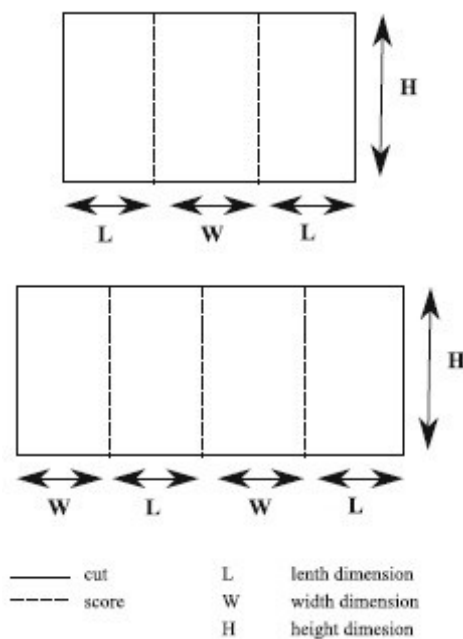

Fig. 7
- 5) For triangle blueboard supports, refer to the top diagram in Fig. 7. Cut along the solid lines only using a sharp utility knife.
- 8) For rectangular blueboard supports, repeat steps 5-7 using the bottom diagram of Fig. 7.